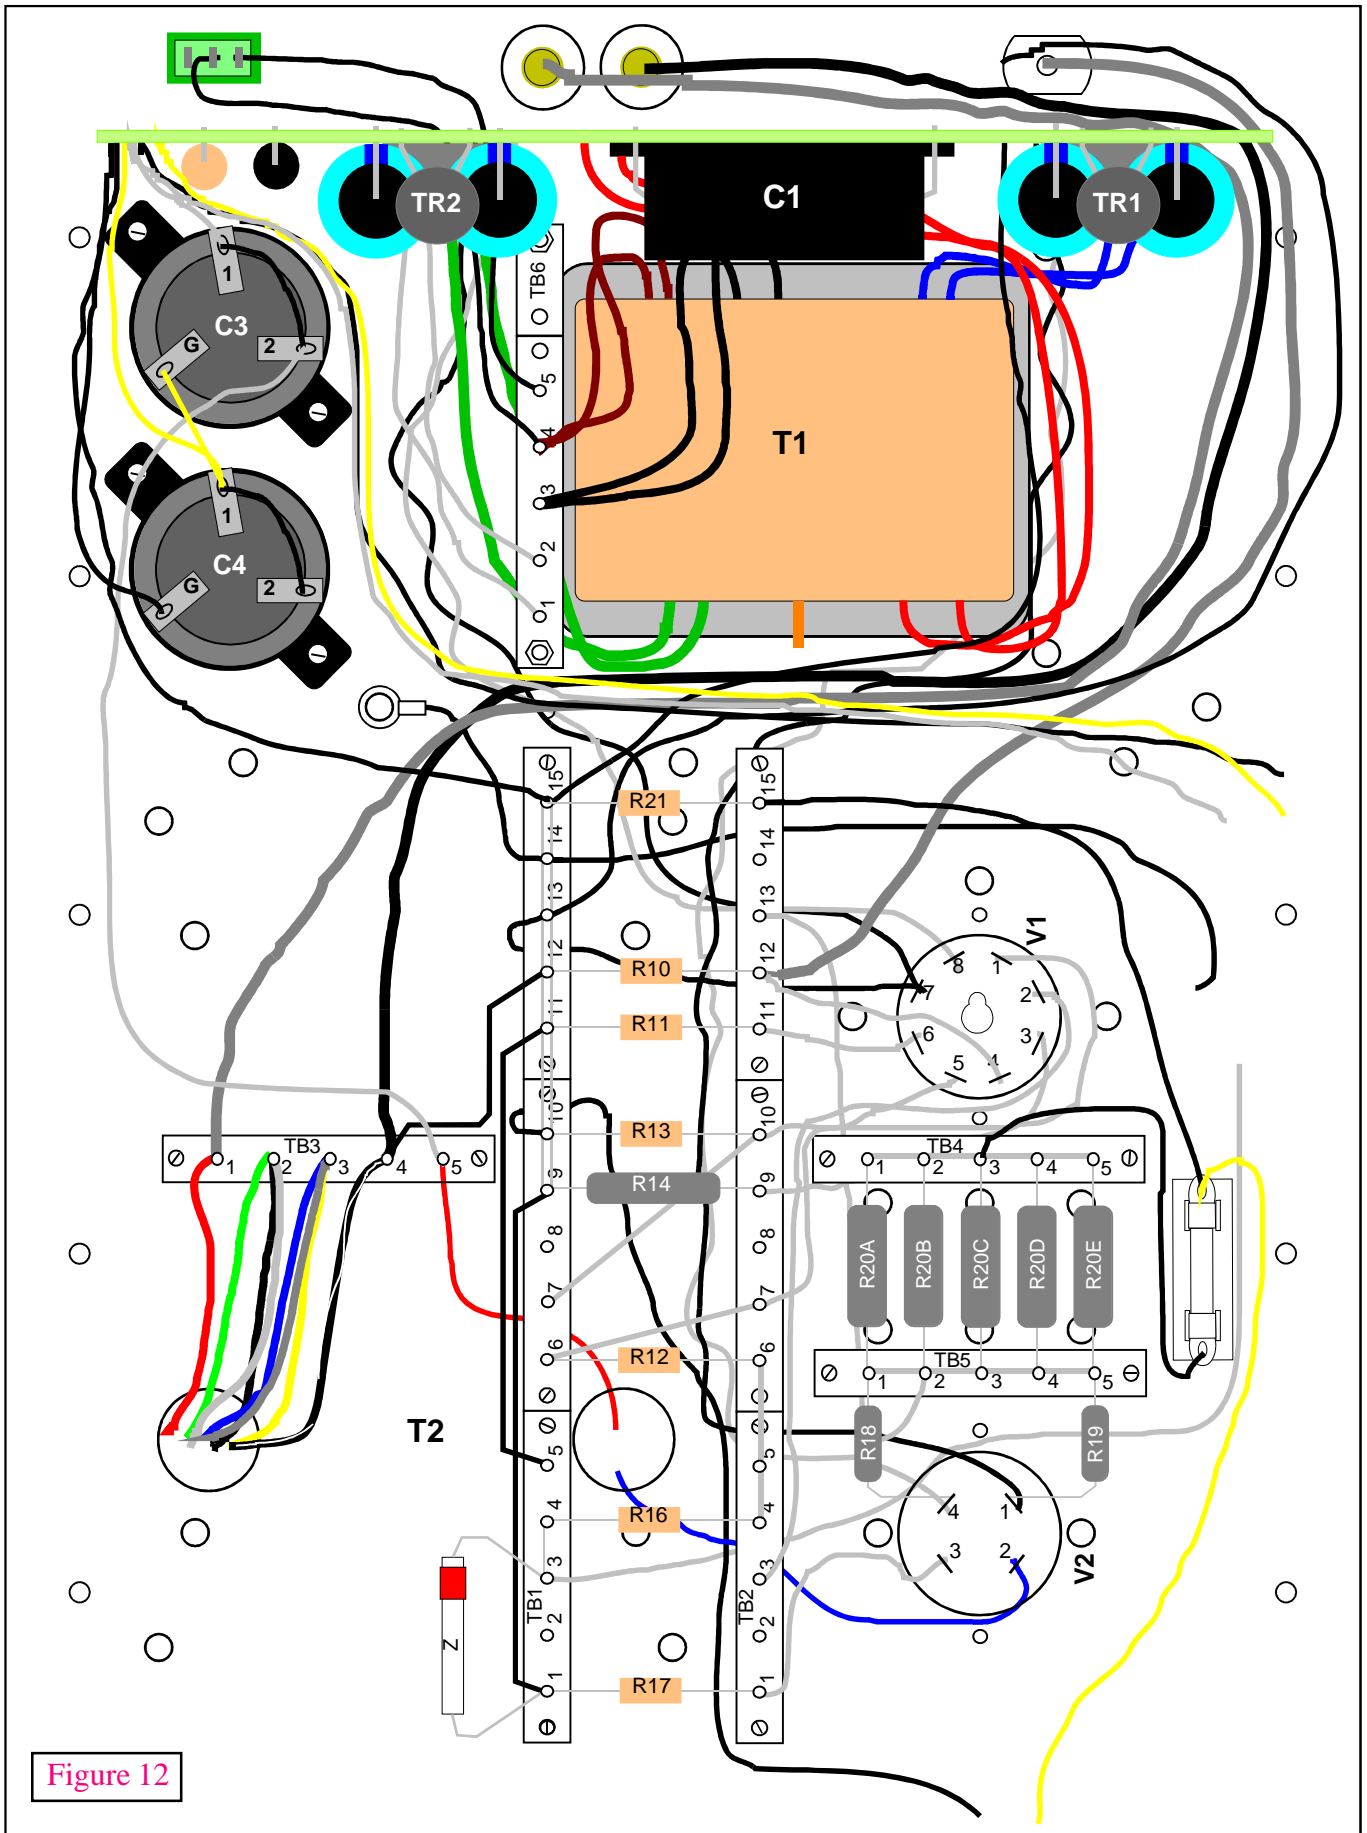

Figure 12
11) OK...now for the fun part. Refer to figure 12 for the following steps. It is now time to install the SRDC circuit board.